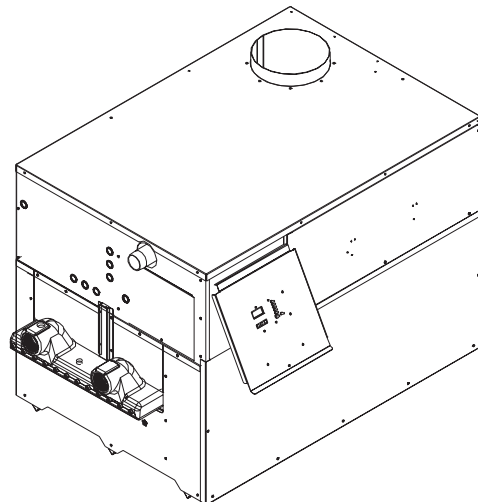

Figure 41 – Control Panel Cover
3. Loosen knurled screw at the bottom of control panel cover (see Figure 41).